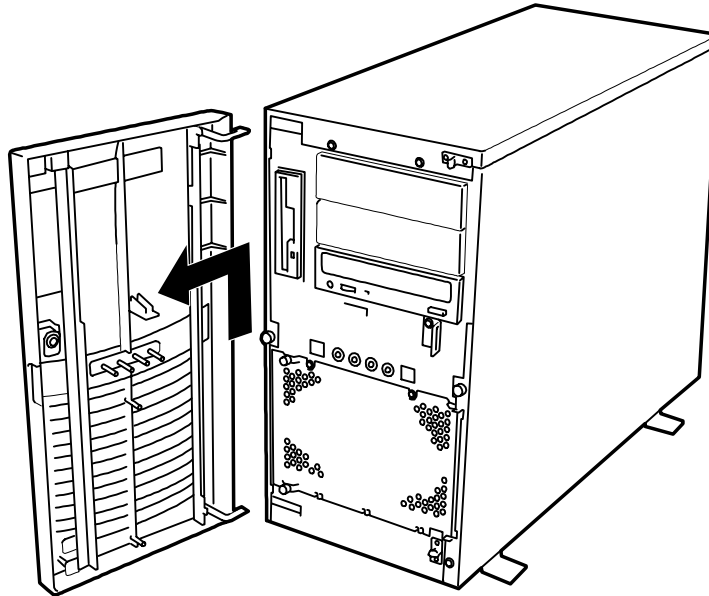

Figure 4-2. Removing the Front Door
4. To remove the front door, open it and lift the door and pull it towards you (see Figure 4-2). The mounting pins of the front door are disengaged from their mounting holes on the front of the system.